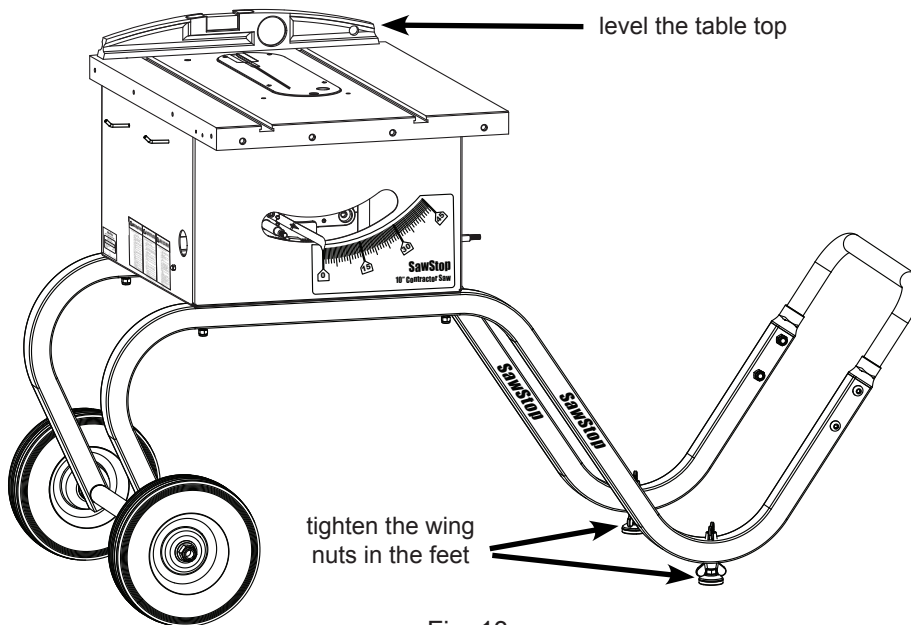

Fig. 13
13. Place a level across the table top and adjust the two leveling feet of the job site cart by turning the lower wing nuts until the table top is level (you may need to loosen the upper wing nuts). When the saw is level, tighten the four wing nuts by hand (see Fig. 13).